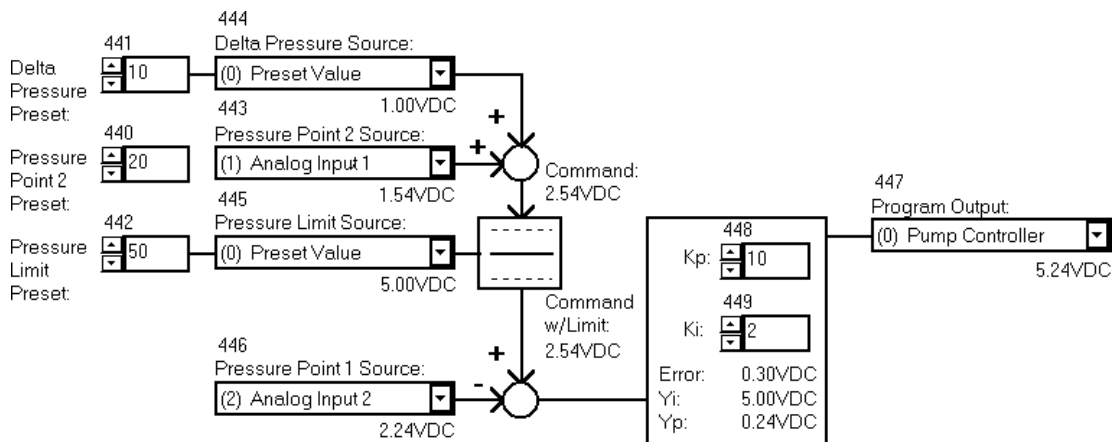

Figure 7: Load Sense Program
Example: Figure 7 shows Program 5 Form for Load Sense. The Delta Pressure Source is set to the Delta Pressure Preset Value of 10% (program item 444=0 and program item 441=10). The Pressure Point 2 Source is Analog Input 1 (program item 443=1), therefore the command is 1.00V + 1.54V = 2.54V.